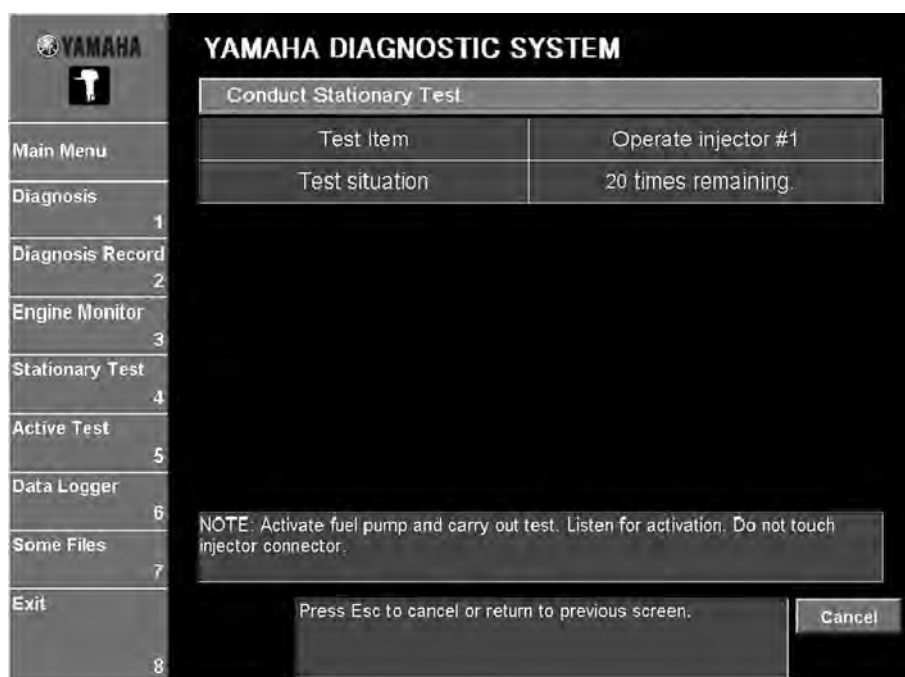

Fig. 73
3. Click the **Execute** button or press the Enter key on your keyboard. (Fig. 73)